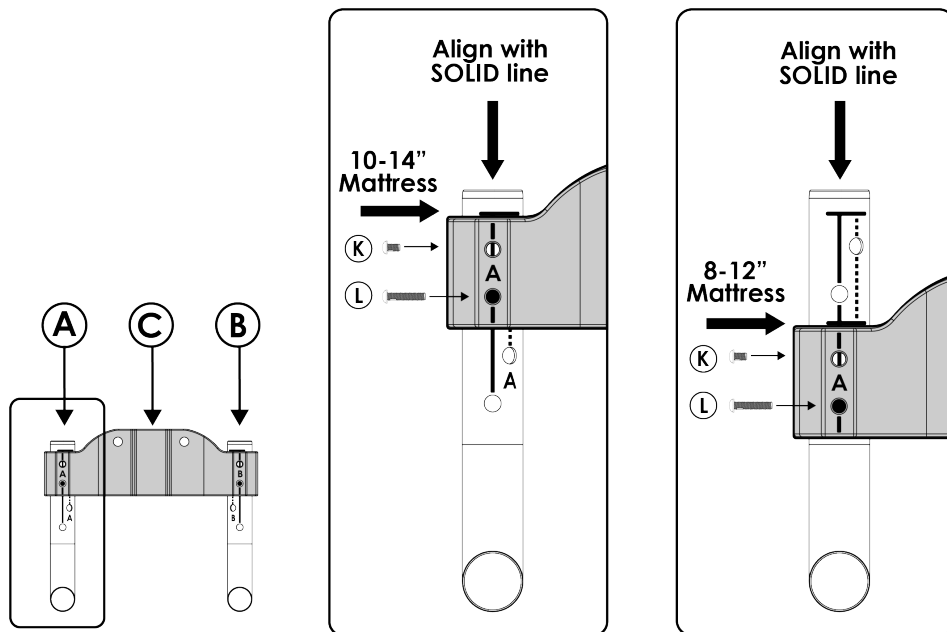

FIGURE 4
4. Align line on **C** with the solid vertical line on **A**. Align top edge of **C** with appropriate horizontal line for mattress height. *FIGURE 4.* Screw in **L** and tighten firmly with tool provided (**H**). Insert **K** into upper hole and tighten firmly. Repeat for opposite side (**B**).